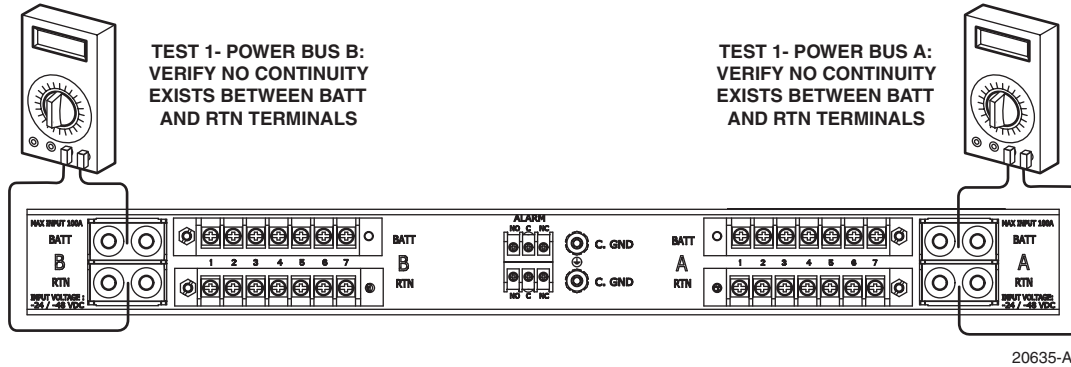

Figure 7. Test 1: Input Battery to Input Return
1. Connect one test probe to the A bus BATT input power terminal and the other test probe to the A bus RTN input power terminal (Figure 7).